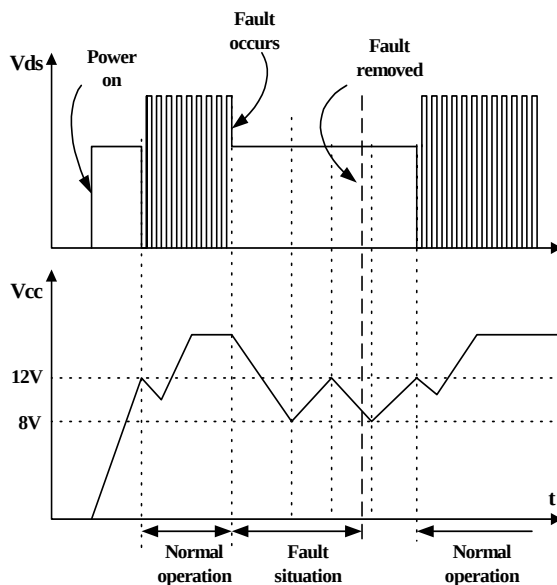

Figure 7. Auto restart operation
3. Protection Circuit : The FSCM0565R has several self protective functions such as over load protection (OLP), over voltage protection (OVP) and thermal shutdown (TSD). Because these protection circuits are fully integrated into the IC without external components, the reliability can be improved without increasing cost. Once the fault condition occurs, switching is terminated and the Sense FET remains off. This causes V_{CC} to fall. When V_{CC} reaches the UVLO stop voltage of 8V, the current consumed by FSCM0565R reduces to the startup current (typically 25uA) and the current supplied from the DC link charges the external capacitor (C_A) that is connected to the V_{CC} pin. When V_{CC} reaches the start voltage of 12V, FSCM0565R resumes its normal operation. In this manner, the auto-restart can alternately enable and disable the switching of the power Sense FET until the fault condition is eliminated (see Figure 7).